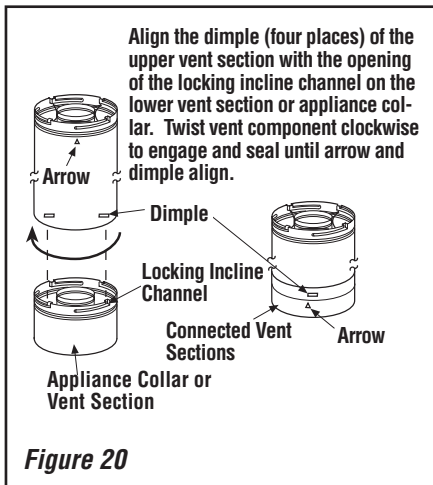

Figure 20
B. Attach vent components to appliance - Secure Vent SV4.5 direct vent system components are unitized concentric pipe components featuring positive twist lock connections (see **Figure 20**).
To attach a vent component to the appliance collar, align the dimpled end over the collar, adjusting the radial alignment until the four locking dimples are aligned with the inlet of the four inclined channels on the collar (**refer to Figure 20**). Push the vent component against the collar until it fully engages, then twist the component clockwise, running the dimples down and along the incline channels until they seat at the end of the channels. The unitized design of the **Secure Vent** components will engage and seal both the inner and outer pipe without the need for sealant or screws. If desired, a #6 x 1/2" screw may be used at the joint, but is not required as the pipe will securely lock when twisted.
Push the vent component against the previous section until it fully engages, then twist the component clockwise running the dimples down and along the incline channels until they seat at the end of the channels. **This seating position is indicated by the alignment of the arrow and dimple as shown in **Figure 20**.**
Secure Vent SV4.5 direct vent system components are unitized concentric pipe components featuring positive twist lock connection, (refer to Figure 20 on Page 15). All of the appliances covered in this document are fitted with collars having locking inclined channels. The dimpled end of the vent components fit over the appliance collar to create the positive twist lock connection.
To attach a vent component to the appliance collar, align the dimpled end over the collar, adjusting the radial alignment until the four locking dimples are aligned with the inlets of the four incline channels on the collar (**refer to Figure 20 on Page 15**).